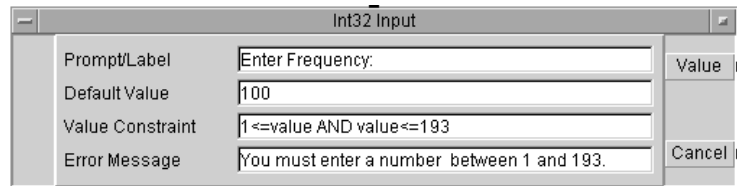

Figure 45 The Int32 Input Configuration Box
- 2 Change the **Value Constraints** to **1** on the low end and to **193** on the high end. Change the error message to reflect these new values, as shown in Figure 45. Finally, iconize the **Int32 Input** object.